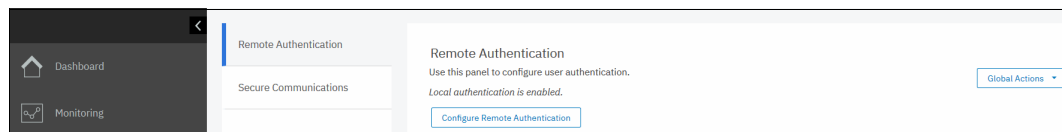

Figure 3-56 Configuring remote authentication
1. Select **Settings** → **Security**, click **Remote Authentication**, and then click **Configure Remote Authentication**, as shown in Figure 3-56.